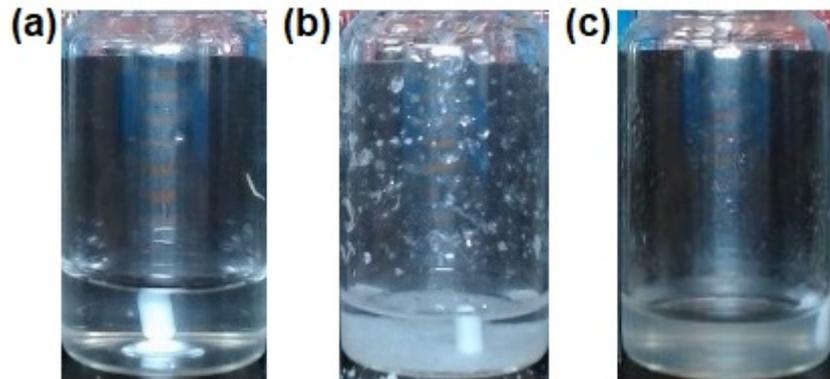

Figure S5: Example of data images with (a) clear liquid, (b) liquid with salt-like sediment, and (c) liquid with flour-like sediment.
- Fig. S5 S17 show example of data images.